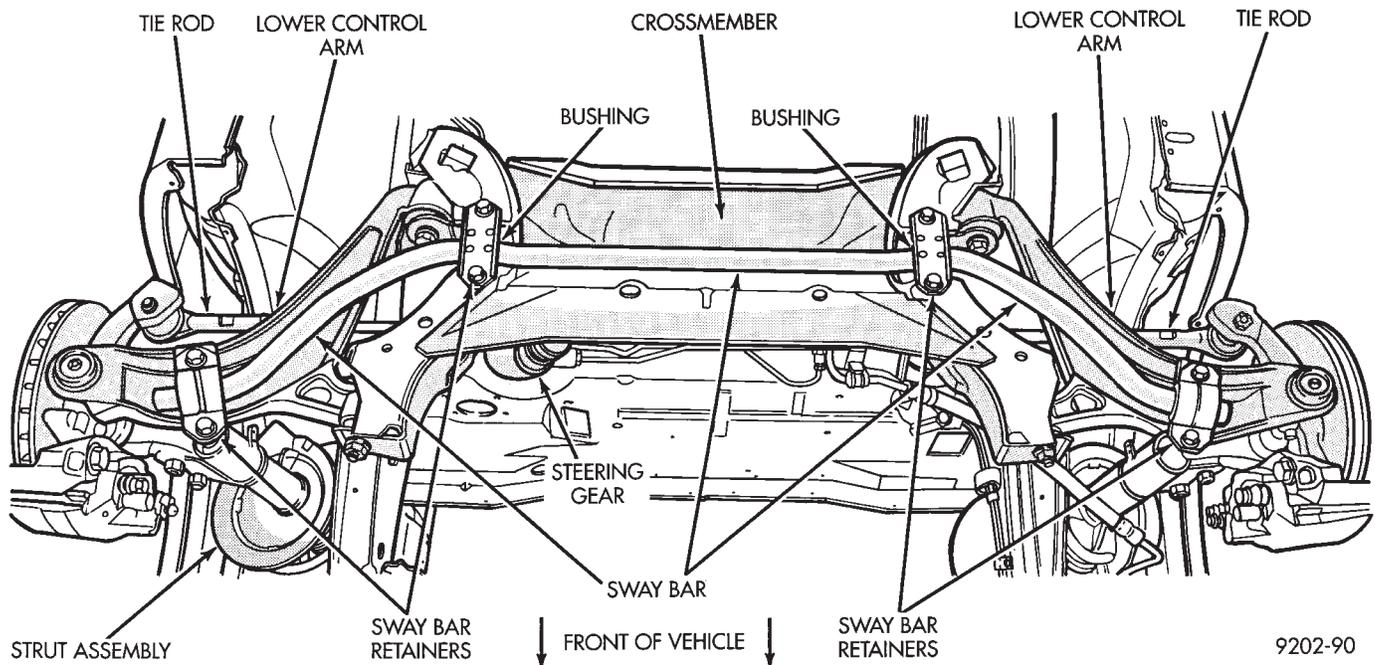
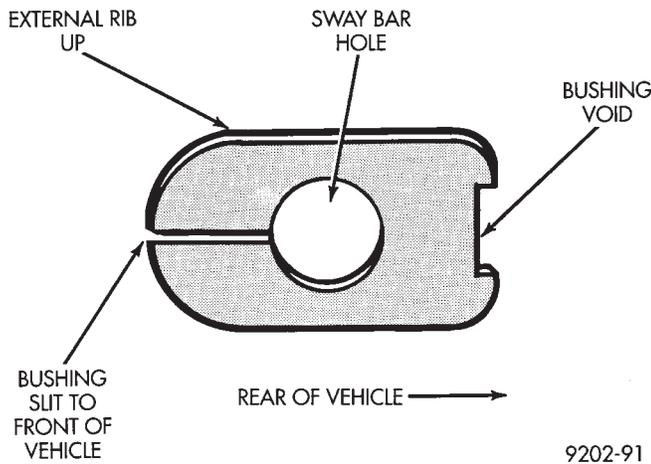

Fig. 1 Front Sway Bar
Fig. 2 Sway Bar To Crossmember Bushing Position
(1) Raise and support the vehicle. See Hoisting in Lubrication and Maintenance, Group 0.
(2) Remove the bolts and sway bar retainers at the front lower control arms (Fig. 1).
(3) Remove the bolts at sway bar crossmember clamps, and remove clamps and sway bar from vehicle (Fig. 1).
hicle (Fig. 2). Note that the control arm retainers are symmetric and bend slightly upon installation.
(1) If inspection of the sway bar assembly, determined that sway bar to lower control arm bushings require replacement. Install the new bushings, by forcing them onto sway bar using a rotating motion. Bushings should be installed on sway bar so that sway bar extends 1/2 inch out past the end of the bushing.
(2) If required position sway bar to crossmember bushings on sway bar with external rib up and void in the bushing facing the rear of vehicle (Fig. 2). Lift the bar assembly into the crossmember, and install the lower clamps and bolts. The center offset in the sway bar should be oriented toward the front of the vehicle (Fig. 1)